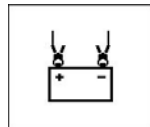

Fig.7
2. If any of the Analyser clip was not properly clamped to the battery contact, the display will flash alternately between Fig.7 and 8. In such event, unclamp and clamp the clips again on the battery posts to ensure the contacts are good before conducting a test.